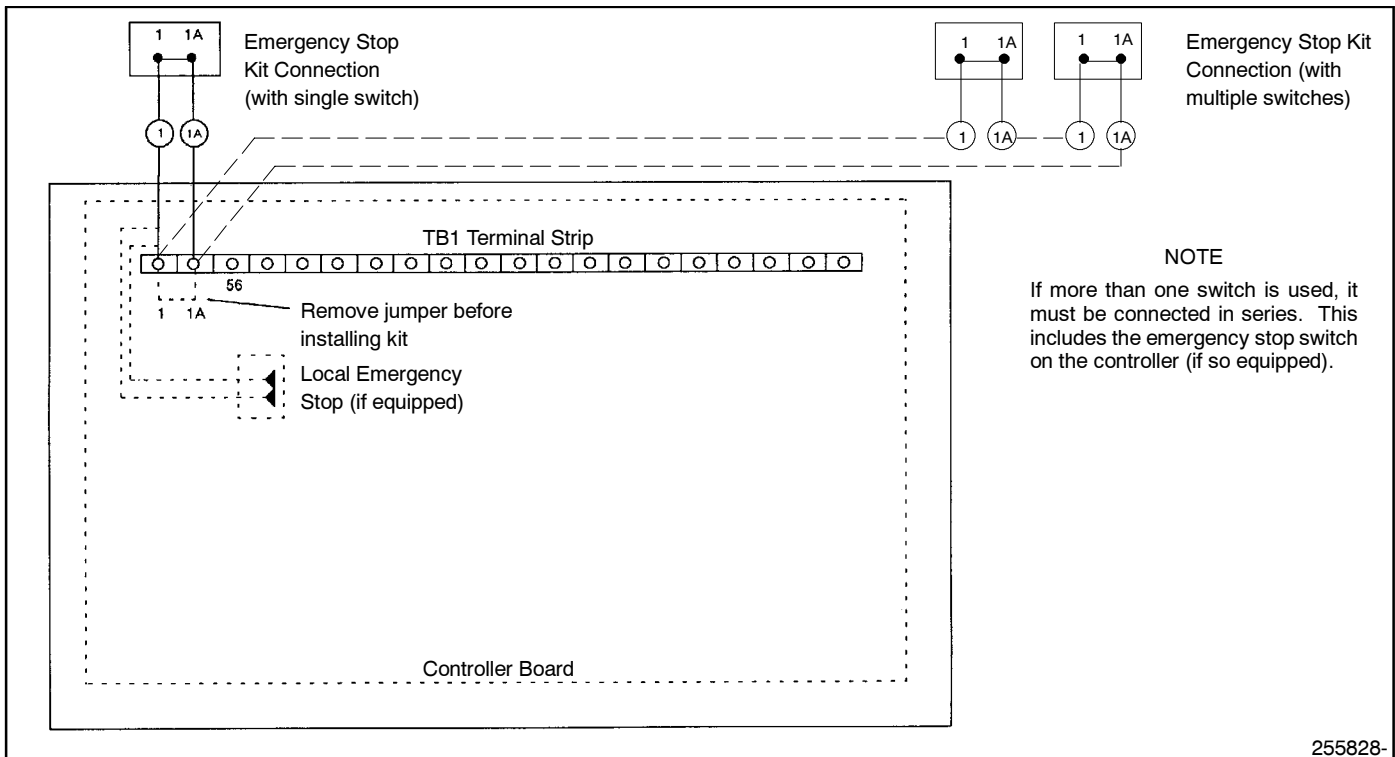

Figure 2. Remote Emergency Stop Switch Connections
The emergency stop switch is connected to controller circuit board terminals TB1-1 and 1A (see Figure 2). On sets without a local (controller-mounted) emergency stop switch, remove jumper from terminals TB1-1 and 1A before installing the kit. When the emergency stop switch is activated, contacts in the switch open to deenergize the K4 relay and shut down the generator set.
7. Route switch leads through controller port and harness loops to circuit board terminal strip. Cut leads to length, strip ends and connect to circuit board terminals TB1-1 and 1A (see Figure 2).
- c. Splice local emergency stop leads in series with remote switch lead connected to terminal TB1-1 as shown in Figure 2.